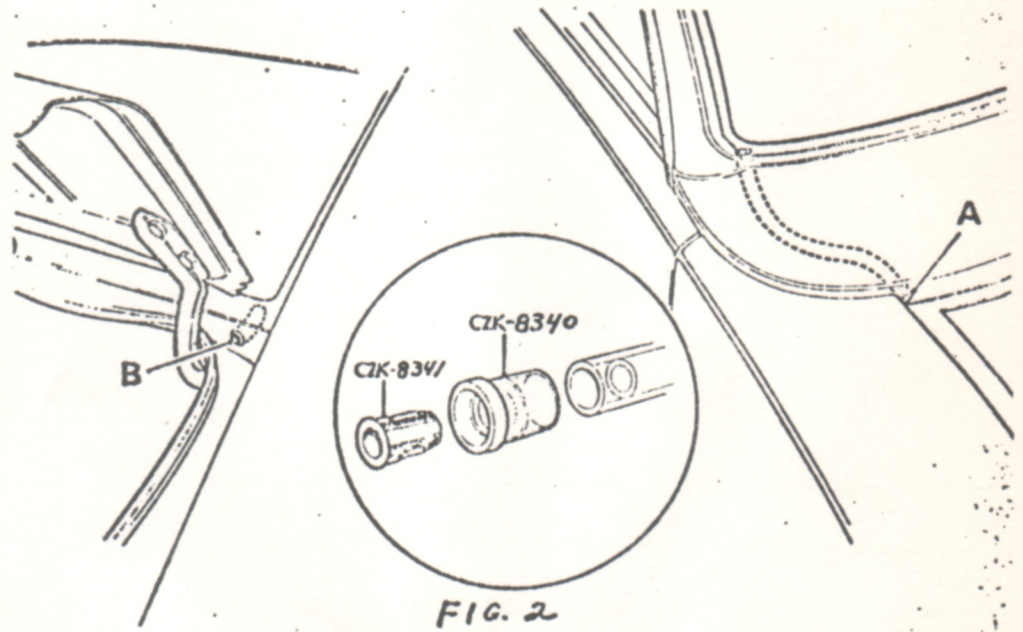

FIG. 2
2. Plastic Drain Tube (Fig. 2)